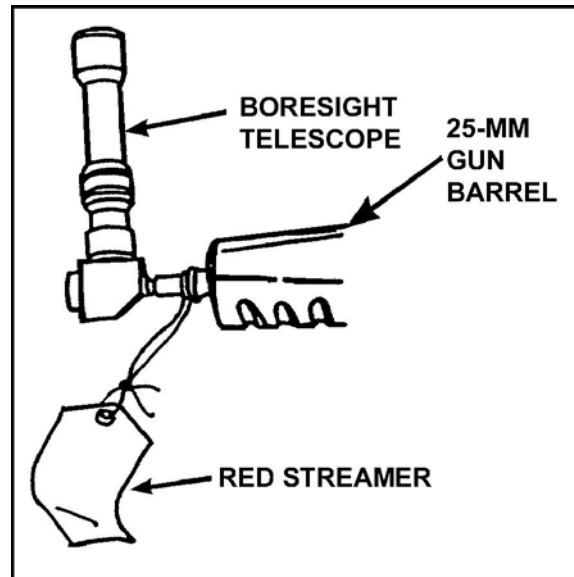

Figure 4. Boresight kit.
12. Helper: Install the 25-mm boresight kit (Figure 4).